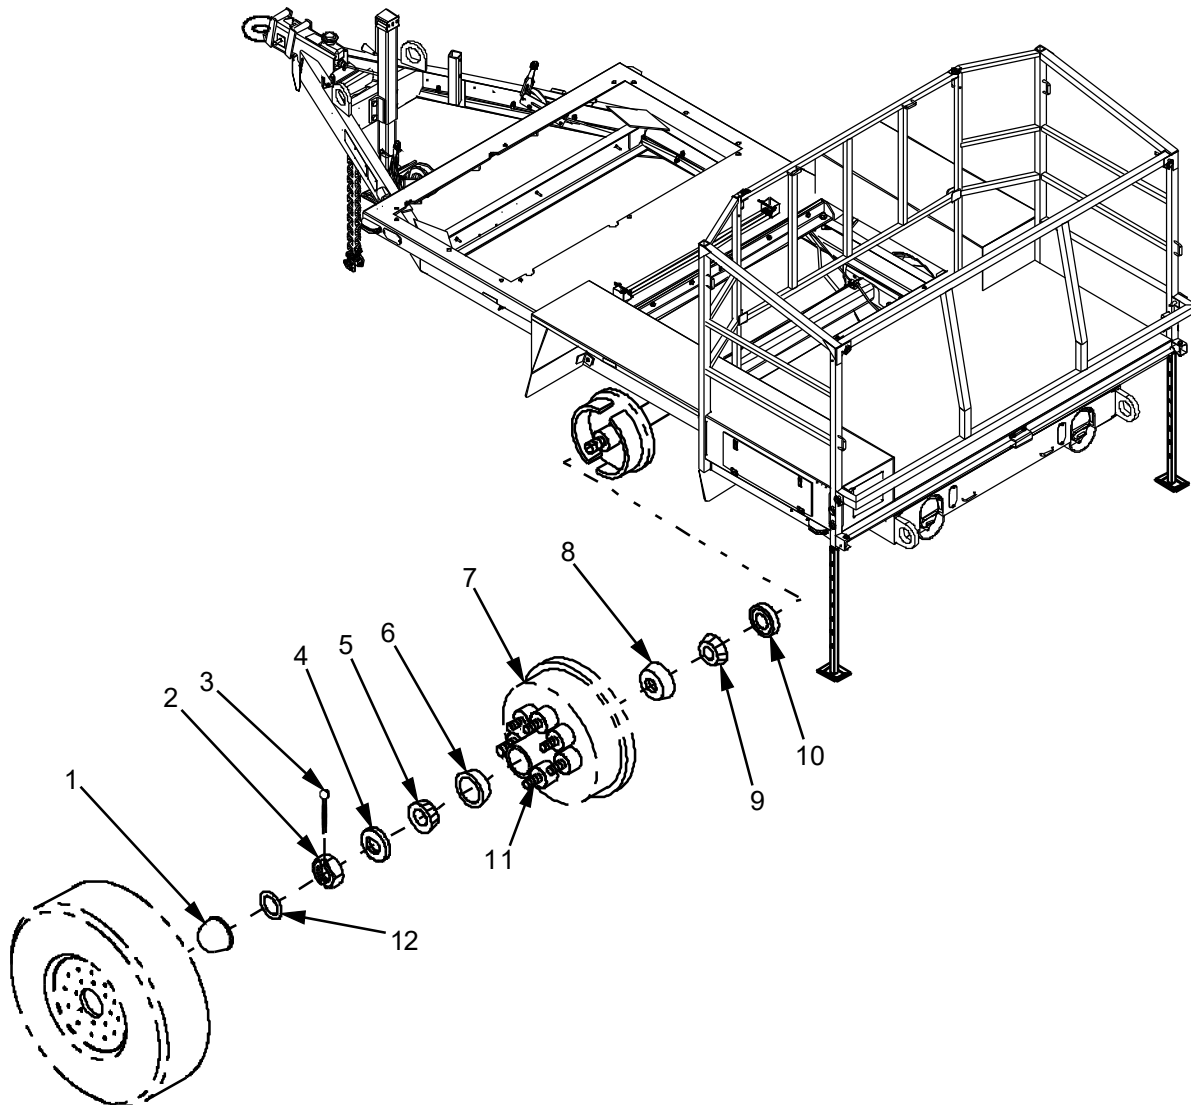

Figure 1. Brake Hub/Drum Removal/Replacement.
5. Drive stud (Figure 1, Item 11) out of hub/drum (Figure 1, Item 7). Discard stud.
6. Align splines on stud (Figure 1, Item 11) with splines in hub/drum (Figure 1, Item 7) and press stud (Figure 1, Item 11) into hub/drum (Figure 1, Item 7) until stud shoulder seats against hub/drum.
1. Install outer bearing race (Figure 1, Item 6) and apply a thin film of grease to surface of outer bearing race.
2. Install inner bearing race (Figure 1, Item 8) and apply a thin film of grease to surface of inner bearing race.
3. Pack both bearings (Figure 1, Items 5 and 9) with grease by pressing fresh bearing grease into bearing roller area.
4. Install inner bearing (Figure 1, Item 9) in hub/drum (Figure 1, Item 7).
5. Apply a thin film of grease to the outer edge of grease seal (Figure 1, Item 10) and install grease seal (Figure 1, Item 10) in hub/drum (Figure 1, Item 7). Wipe excessive grease from outer surface of seal.
6. Install hub/drum (Figure 1, Item 7), with inner bearing and seal, on axle.
7. Install outer bearing (Figure 1, Item 5), washer (Figure 1, Item 4), and spindle nut (Figure 1, Item 2).
8. Ensure spindle nut (Figure 1, Item 2) turns freely on the spindle and the brakes are not dragging.
9. While turning the hub/drum (Figure 1, Item 7) slowly, tighten the spindle nut (Figure 1, Item 2) to seat bearings.
10. Back off the spindle nut (Figure 1, Item 2) as required to align the cotter pin hole. Hub/drum must turn freely.
The cotter pin (Figure 1, Item 3) prevents the spindle nut (Figure 1, Item 2) from coming loose. Failure to install the cotter pin properly will cause the spindle nut to back off of the spindle causing loss of wheel assembly.
11. Install a cotter pin (Figure 1, Item 3) and bend ends to secure the spindle nut (Figure 1, Item 2).
12. If applicable, press O-ring (Figure 1, Item 12) over spindle nut (Figure 1, Item 2).
13. Apply grease to surface of grease cap (Figure 1, Item 1).
14. Install grease cap (Figure 1, Item 1) on hub/drum (Figure 1, Item 7).